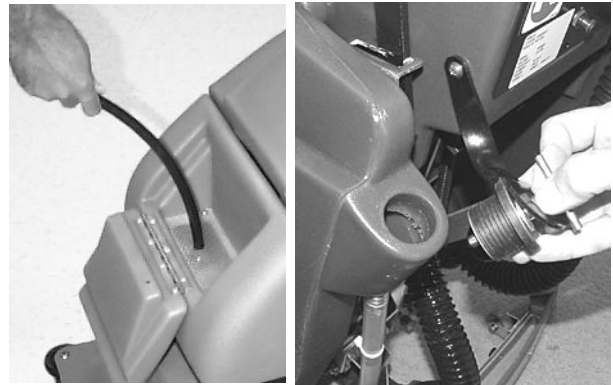

FIG. 8
3. Open solution fill door at front of machine and fill solution tank with 38L (10 gal) of clean water, 60°C (140°F) maximum temperature. Or use the rear fill port to fill solution tank. The clear tube below the fill port has 19L (5 gal) increment markers to indicate amount of water in tank (Figure 8).